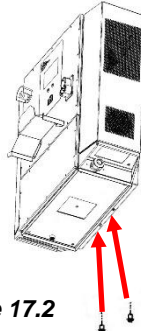

Figure 17.2
3. Using a T27 Torx t-handle screwdriver and the 2 black oxide M6 screws, split washers, and flat washers provided, secure Retaining bracket (attached to bottom of charger) to bottom of Hanging bracket (attached to wall) (Figure 17.2).